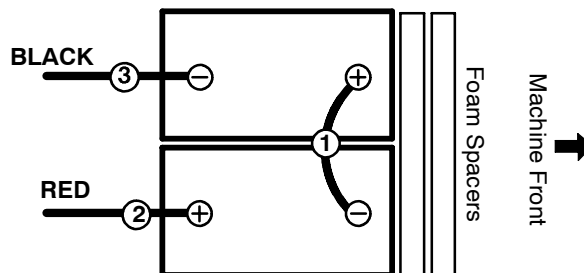

FIG. 2
- Carefully install the batteries into the battery compartment tray and arrange the battery posts as shown (Figure 2). Insert the two foam spacers in front of the batteries as shown.
- Using the supplied battery post boots, connect the cables to the battery posts in numerical order as labeled (Figure 2), RED TO POSITIVE (+) & BLACK TO NEGATIVE (-).